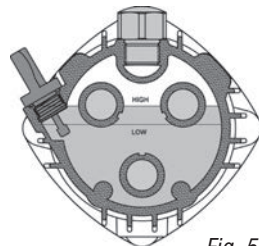

Fig. 5
1. Using a 17 mm open-end wrench or socket wrench to remove the travel plug from the oil fill port (E) on the pump assembly. Keep the travel plug to use when transporting the pressure washer.
2. Insert the breather plug into the oil fill port (E)
3. Check the oil level with the oil dip stick (I). Add oil if the level is lower than recommended (Fig. 5). Do not overfill.